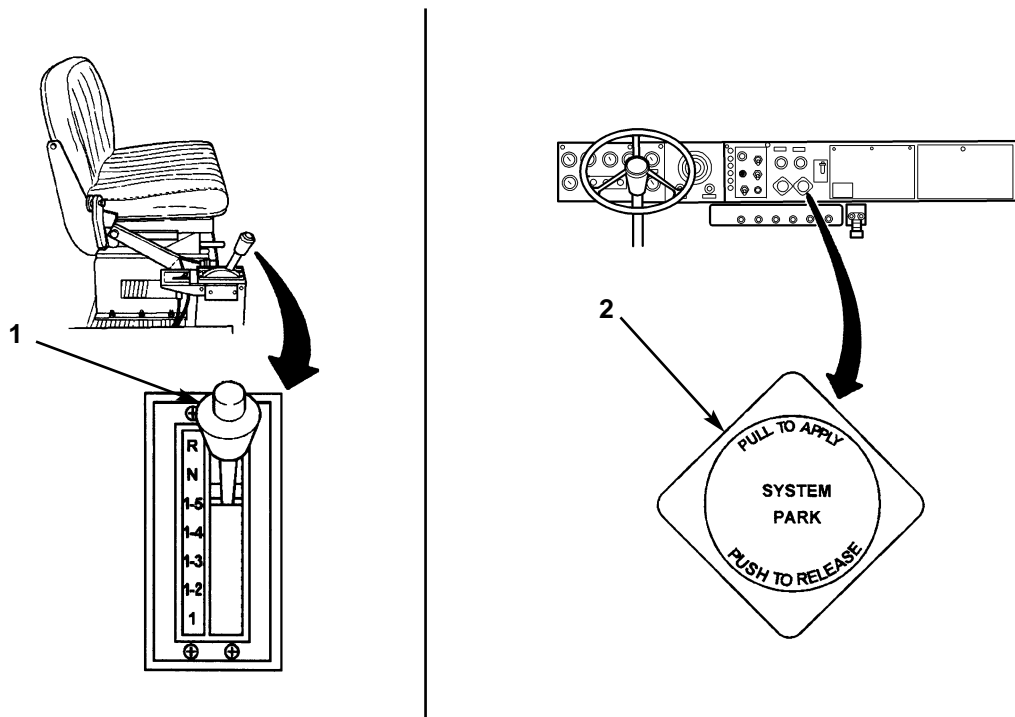

Figure 2. Slowing, Stopping, and Parking on Slippery Surfaces.
8. If parking tractor, continue to depress and hold service brake pedal (figure 1, item 2), place transmission control lever (figure 2, item 1) in Neutral (N) position, and apply parking brake control (figure 2, item 2).